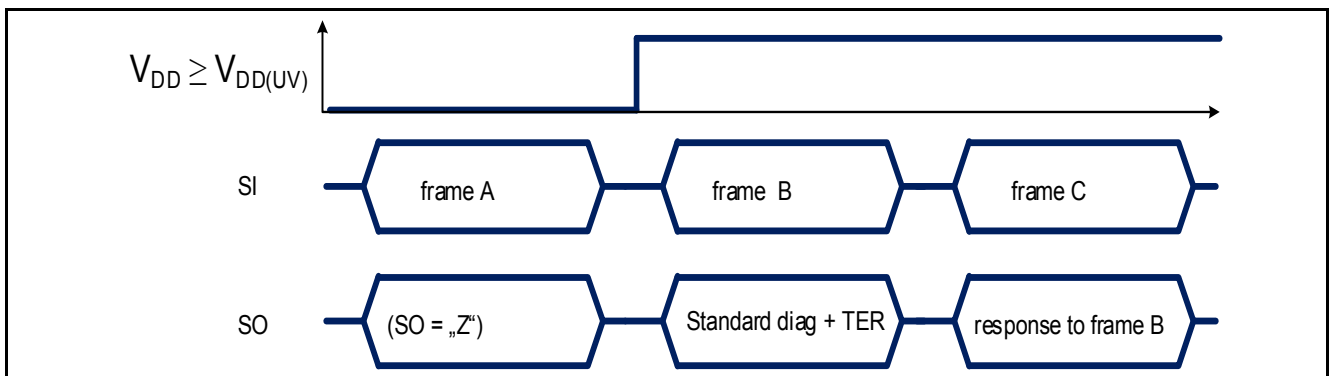

Figure 35 TLD5501-2QV response after coming out of Power-On reset at V_{DD}
- when TLD5501-2QV logic supply comes out of an Undervoltage reset condition ($V_{\text{DD}} < V_{\text{DD(UV)}}$) as shown in **Figure 35** or $V_{\text{EN/INUVLO}} < V_{\text{EN/INUVLOth}}$)